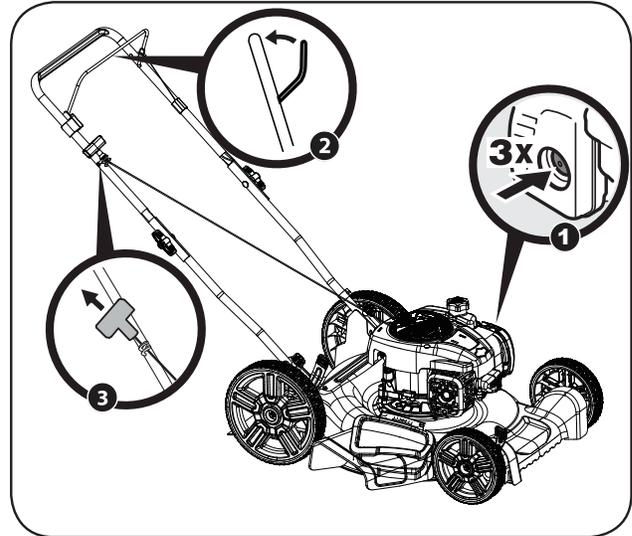

Figure 8
2. Standing behind the mower, pull the blade control handle back against the upper handle (Figure 8).